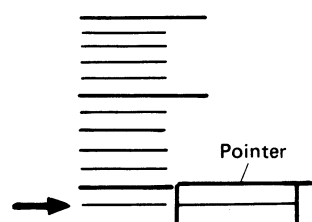

Figure 2-2
2. Turn the tuning control shaft fully counterclockwise and fix its pointer as shown in Figure 2-2.